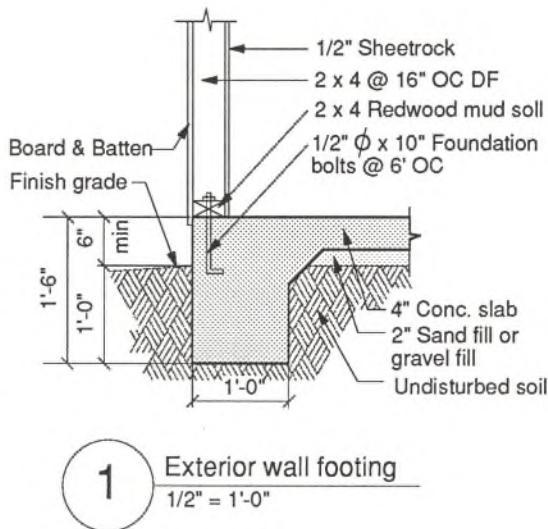
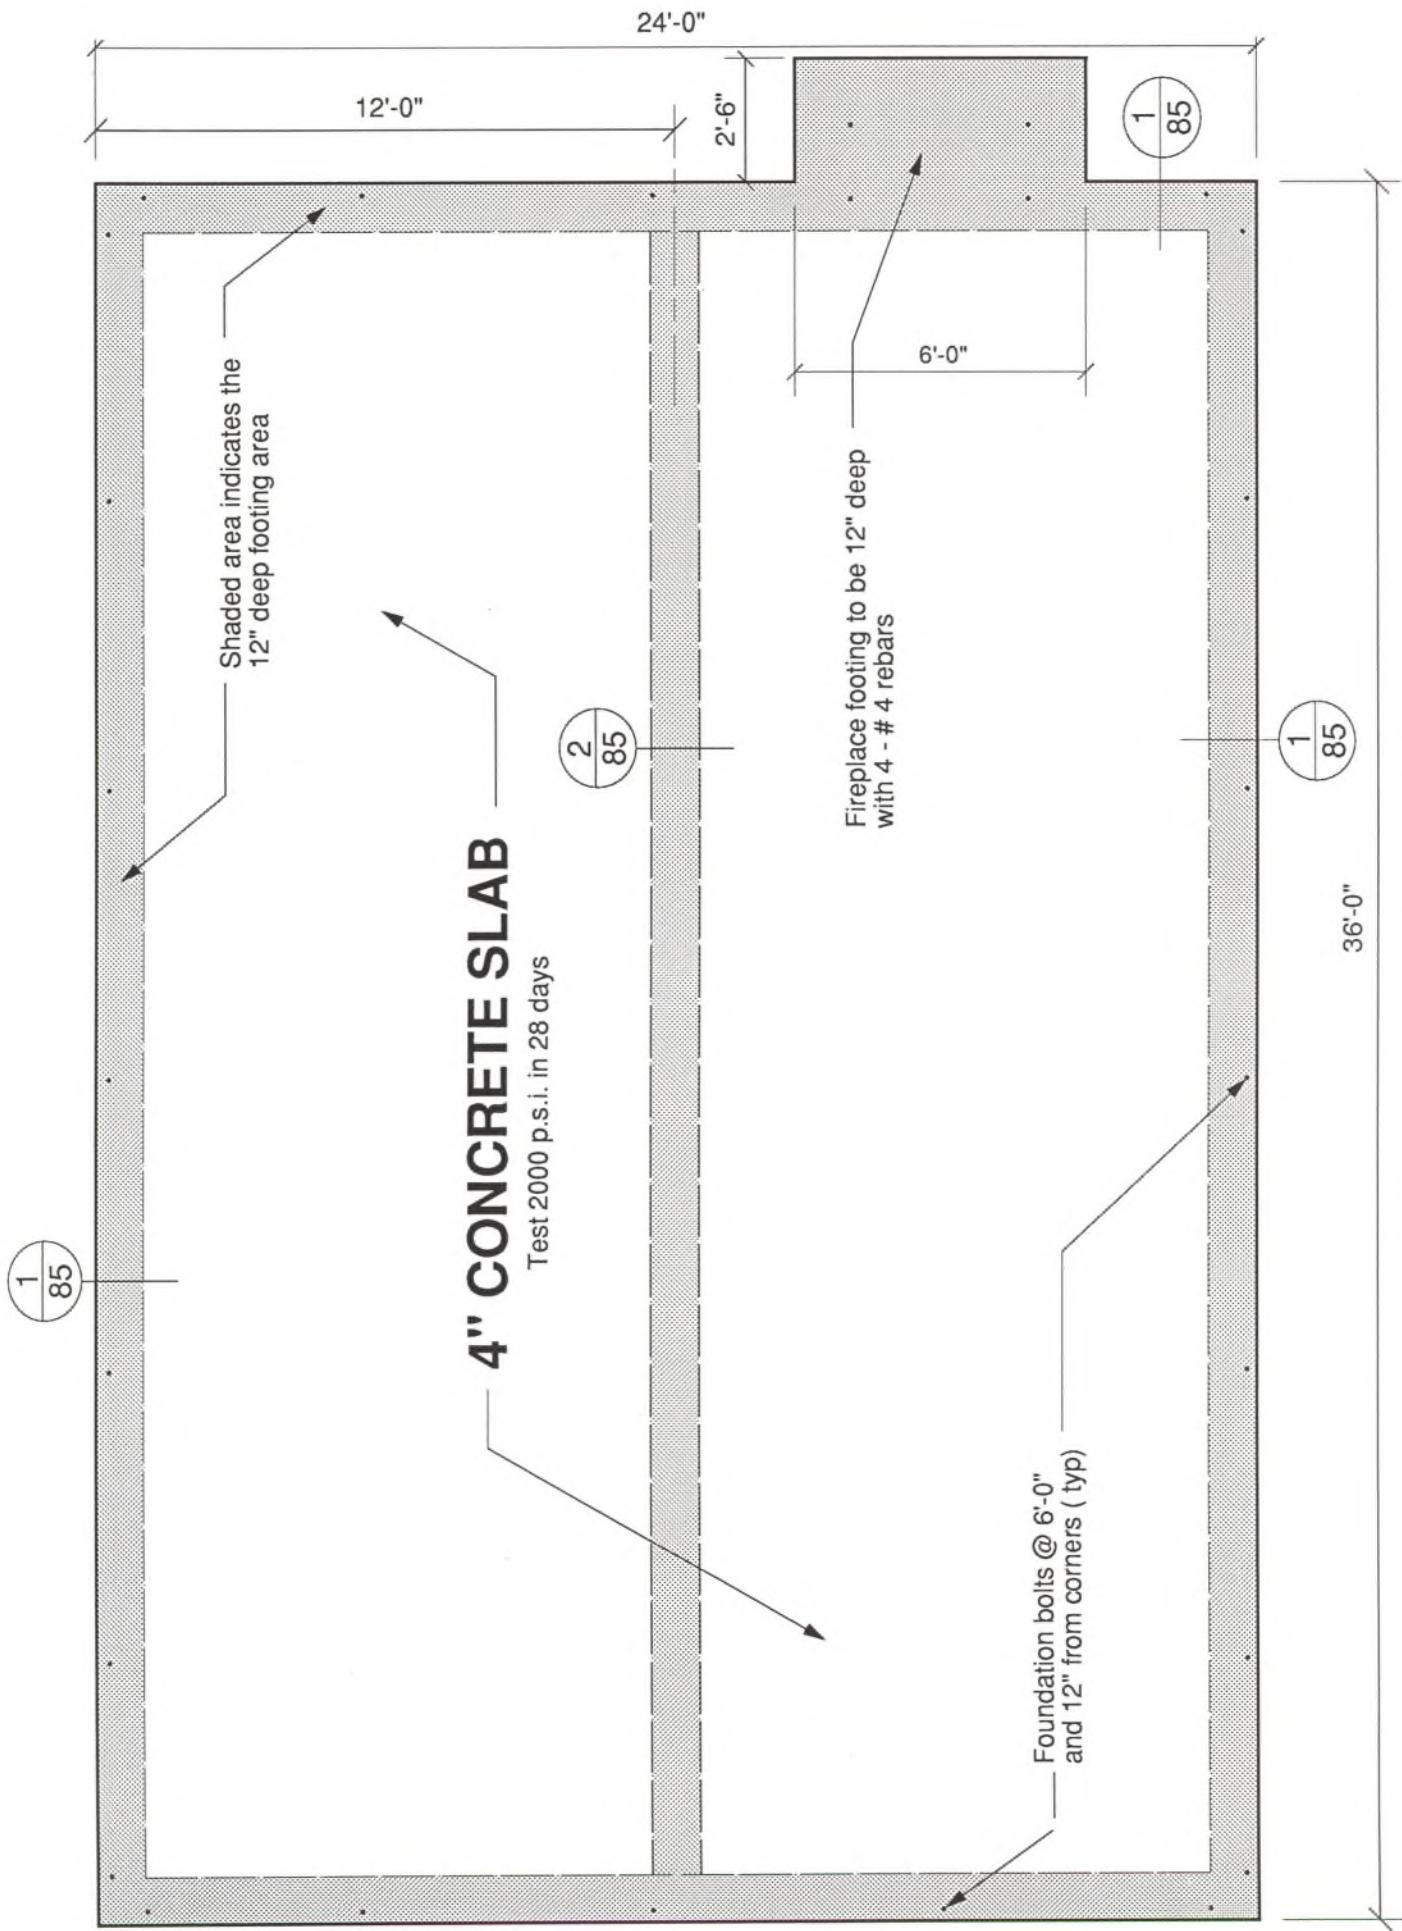

Fig. 22.1 Exterior footing detail.
Fig. 22.5 Foundation plan drawn to 1/4" scale.
The foundation for the sample house plan in this book is called a concrete-slab foundation. With this method of foundation construction, the footing and also the surface of the floor is constructed of concrete. (See Fig. 22.5.)
A concrete slab is a level surface of concrete poured on top of footings. In deciding on the thickness of the concrete slab, check with your local building department for typical requirements. Average thicknesses are 3 1/2" to 6". Depending on soil conditions and loading factors, the concrete slab could require reinforcing with either weld-wire fabric or reinforcing bars. Slabs are underlain with a fill of gravel or sand to improve supporting capacity. A plastic membrane (called a vapor barrier) is typically placed over the fill to eliminate moisture penetration. (See Figs. 22.1 through 22.4.)
To construct footings, concrete is poured into continuous forms which have been dug into undisturbed earth a minimum of 12" deep around the perimeter of a building. Footings serve the purpose of transferring the load from the structure to the soil. When circumstances warrant, reinforcing rods are required and are embedded in the concrete. The size of the footing depends on the structure it is supporting, the soil conditions, and prevailing weather. Footings are drawn in plan view in Fig. 22.5 and in section views in Figs. 22.1 through 22.4.
Typically, bolts (steel rods 1/2" x 10") are placed along the the perimeter of the foundation, 12" from the corners and spaced at intervals not to exceed 6' OC (on center). Their purpose is to attach the mudsill to the foundation. The placement of foundation bolts should be shown on the plan view of the foundation plan, as shown in Fig. 22.5.
Mudsills are the bottom horizontal piece of a wood-framed wall. Typically they are required to be redwood or pressure-treated lumber. Holes are drilled in the sill at intervals located to fit over the foundation bolts. When framed walls are erected, they are secured in place with washers and nuts. This is shown in Figs. 22.1 through 22.4.
Figure 22.1 is a section view of the footing at the exterior corner of a house. A portion of the concrete slab floor is shown plus 2" of sand or gravel fill under the floor. The shaded area represents concrete. Above the concrete is the framed exterior wall with the mudsill bolted to the concrete.
1. Secure your floor-plan drawing to the drawing surface. Cover it with grid vellum drawing paper. Allow enough room on the paper, beside the floor plan, to draw the applicable footing details from the examples in Figs. 22.1 through 22.4. It will be the fourth page in the bound set of working drawings.
4. Refer to the exterior footing detail, Fig. 22.1. Note that the typical thickness of an exterior footing is 1'. In 1/4" scale, dash a line 1' in from the exterior perimeter line. This is a dashed line (hidden line), because it indicates that the footing is beneath the floor slab.
6. Show the placement and spacing of the foundation bolts as in Fig. 22.5.
7. Show the required strength test for concrete by listing the typical pounds per square inch (psi) test strength given in Fig. 22.5.
8. The top half of the section-cut symbols marked 1 and 2 are keyed to the footing details marked 1 and 2. The space in the bottom half is for the plan-sheet number. In this instance, the book page number was used. Draw a section-cut symbol for each different type of footing detail used on your plan. Key them to the footing details as shown in Figs. 22.1 through 22.4.
9. Dimension the foundation plan as shown in Fig. 22.5.